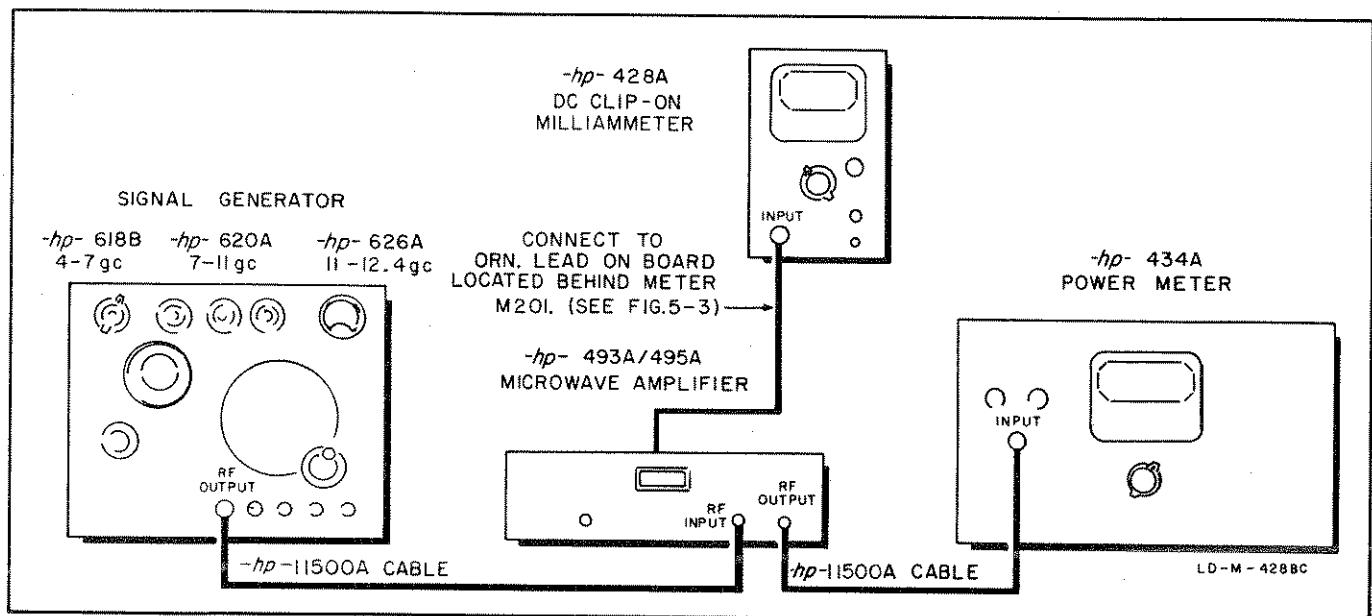

Figure 5-5. Power Amplification Setup
a. Set up the Model 493A as shown in figure 5-5.
b. Connect the Model 493A as shown in figure 5-5. Milliammeter not necessary for this check. Refer to table 5-1, Test Equipment Required.